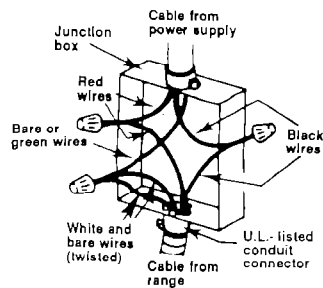

Figure 1
3. Connect the two black wires together, then the two red wires together. See Figure 1.